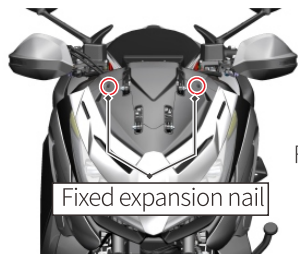

Figure 2
2. Remove the front head cover assembly. (Fig 2: The red circle is the fixed expansion nail)